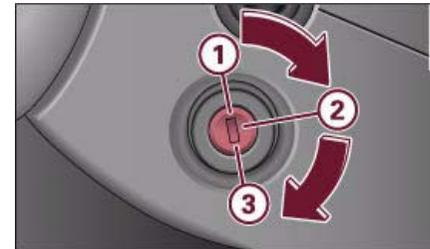

Fig. 72 Ignition key positions
In position ① ⇒ fig. 72 the ignition and the engine are switched off, and the steering wheel lock can be engaged.
- Turn the ignition key to position ③ ⇒ *page 81, fig. 72* without pressing the accelerator.
- Release the ignition key as soon as the engine starts; the starter motor must not be allowed to run on with the engine. Neutral gear (N) will be engaged on vehicles with R tronic.
- Turn the ignition key to position ① ⇒ page 81, fig. 72.